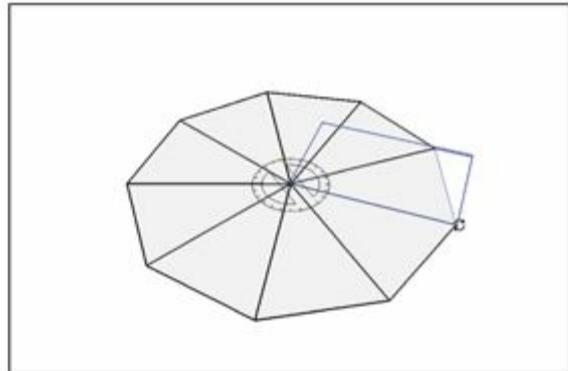

FIGURE 5-18: Use the Rotate tool to make copies of your wedge component instance.
5.  Make copies of your wedge component instance with the Rotate tool. (See Figure 5-18.)